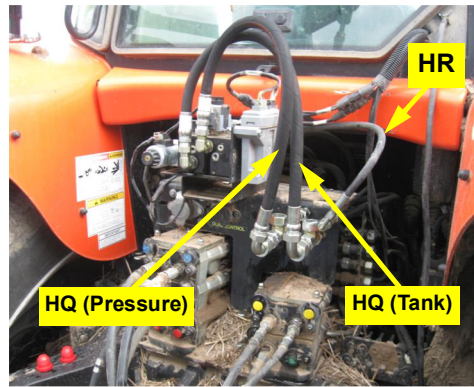

Figure 4: Installed pressure, tank and load sense hoses
- a. Install the pressure and tank hoses **HQ** between fittings **HM** installed in step 3b and the respective **P** and **T** ports on the hydraulic steering block (Figure 4).
- b. Install the load sense hose **HR** between the **LS** port of the hydraulic steering block and the load sense port on the tractor (Figure 4).